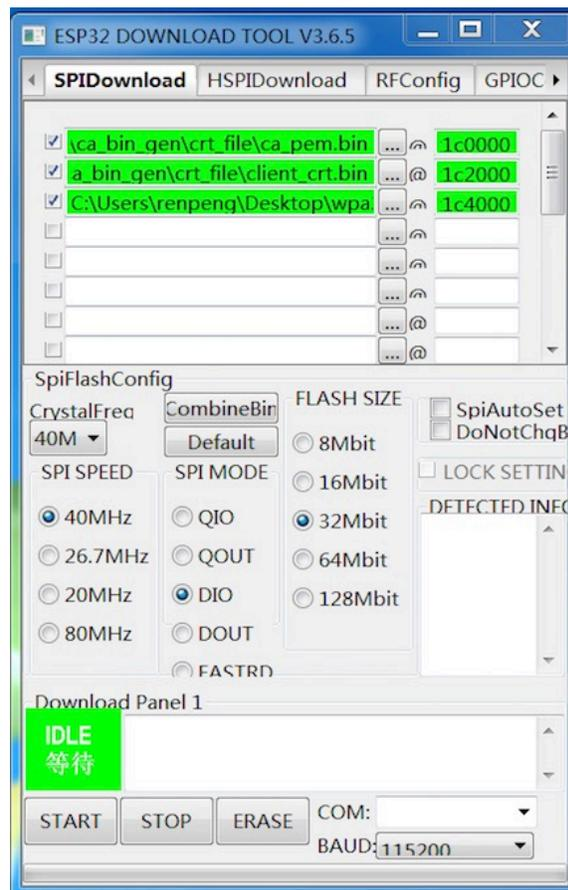

Figure 5-1. Flash Download Tool
2. Flash above bin files into the defined address by using the flash tool, as shown in figure 5-1: